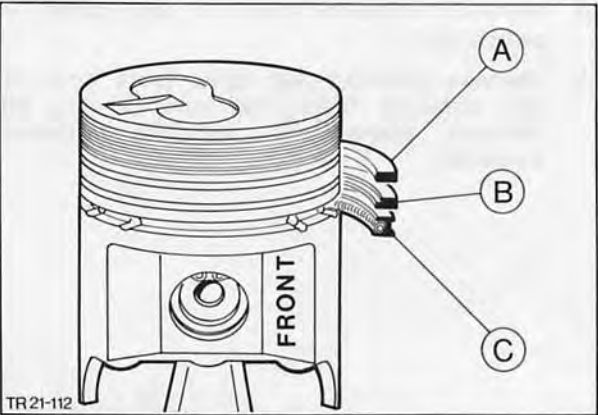

Fig. 60. Fit piston rings
35. Carefully scrape off carbon deposits from cylinder bore top ends, then withdraw piston and connecting rod assemblies upwards from the block. Remove piston rings, clean grooves and fit new rings into grooves, with 'TOP' mark pointing upwards, Fig. 60.